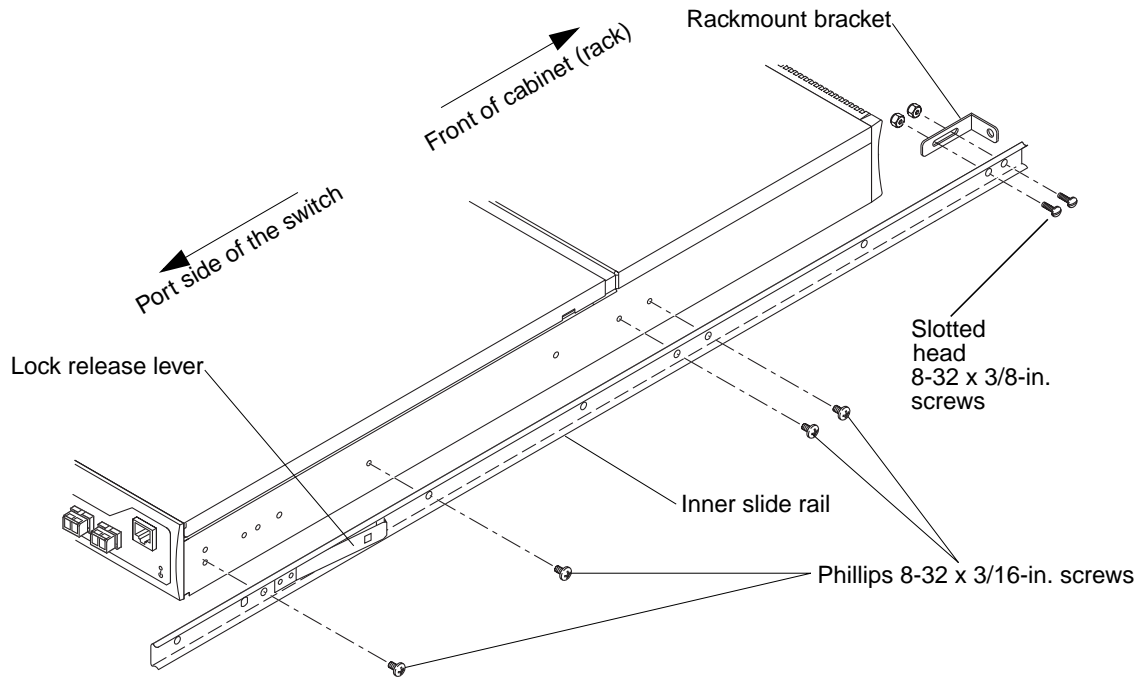

FIGURE 2-1 Brocade SilkWorm 3800 Switch Inner Slide Rail Installation
- a. Position a rackmount bracket at the end of one of the inner slide rails (the end that does not contain the lock release lever), as shown in FIGURE 2-1.
To allow the power supply side of the 3800 switch to slide out the front of the rack, orient the rail as shown in FIGURE 2-1, with the end containing the lock release lever towards the port side of the 3800 switch.